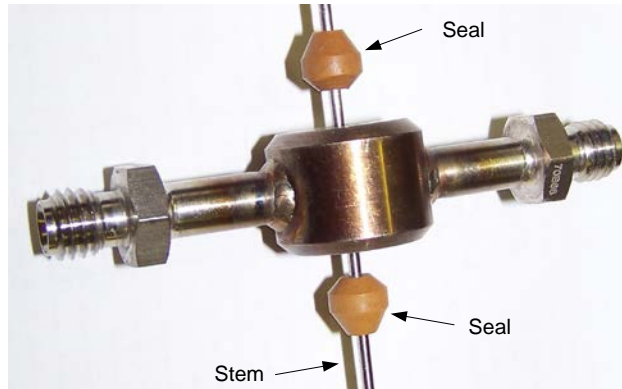

Figure 6.4. Installing the Stem Seals
17. Slide the first cleaned **seal** over the **stem** using the "A" end of Seal Insertion Tool TL-791A006B. The 30° angle (pointed end) of the **seal** must face the **Belleville springs**. Figure 6.4 shows the orientation of the seal.